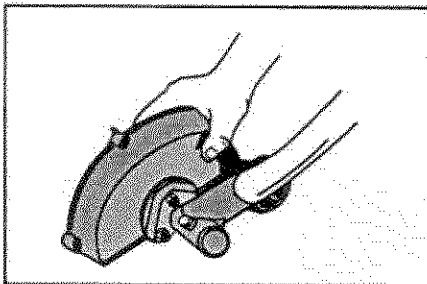

Fig. 2
2. Pull the flex shaft out of the boom about 51 mm (2 in). Insert the shaft into the square hole in the housing (Fig. 2).